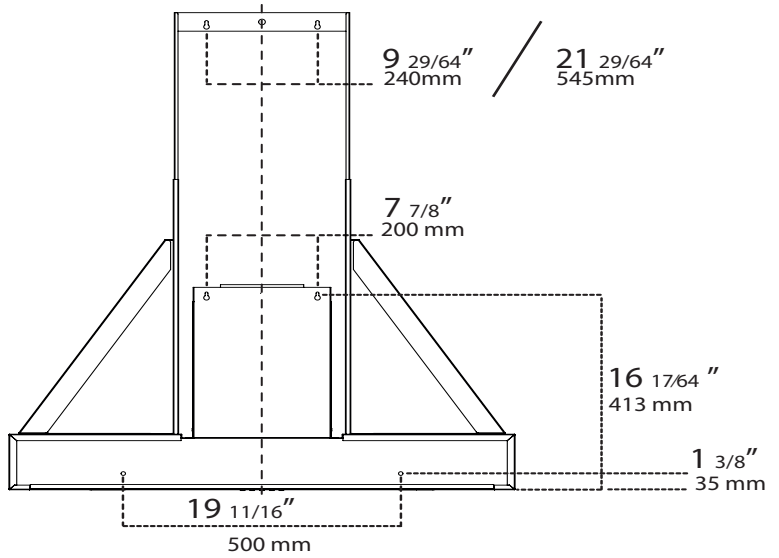

Fig.4
- 4) Make the holes on the wall according to the template scheme (see Figure 4).